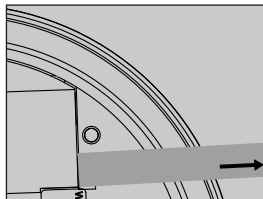

Figure 9.1-A
(B) power up all devices by activating the batteries (Figure 9.1-A)
- Unbox the new device(s) and power it up (Figure 9.1-A)